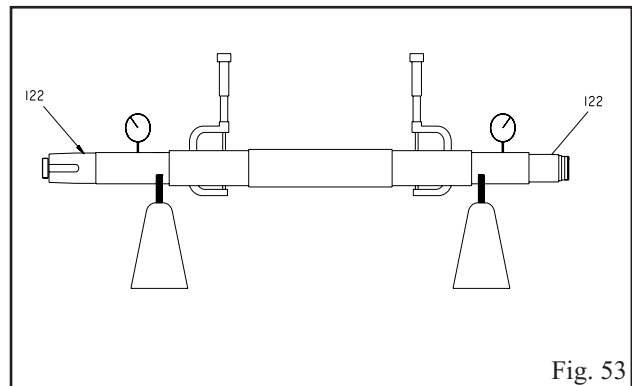

Fig. 53
Inspect the shaft (122) for runout to verify the shaft is straight. See Fig. 53 for proper shaft runout inspection. Inspect the bearing seats and the impeller seats. Verify they are the correct size and free from any scratches or grooves. Bearing fits and tolerances are found in Table 10. The shaft threads must be in good condition. Inspect the keyways for burrs or foreign matter. Replace the shaft if necessary.